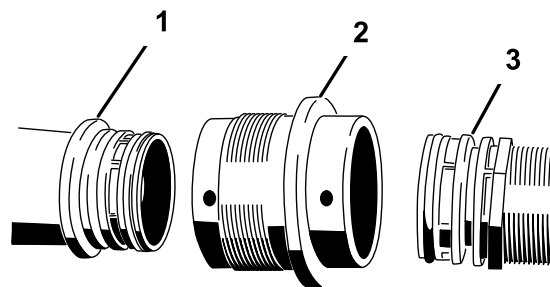

Figure 9
- Remove the barbed fitting and retainer from the control valve assembly (Figure 9).
2. Connect the hose from the flow meter or supply tee as applicable to the control valve using an S67 female/female fitting and 2 large retainers (Figure 9).